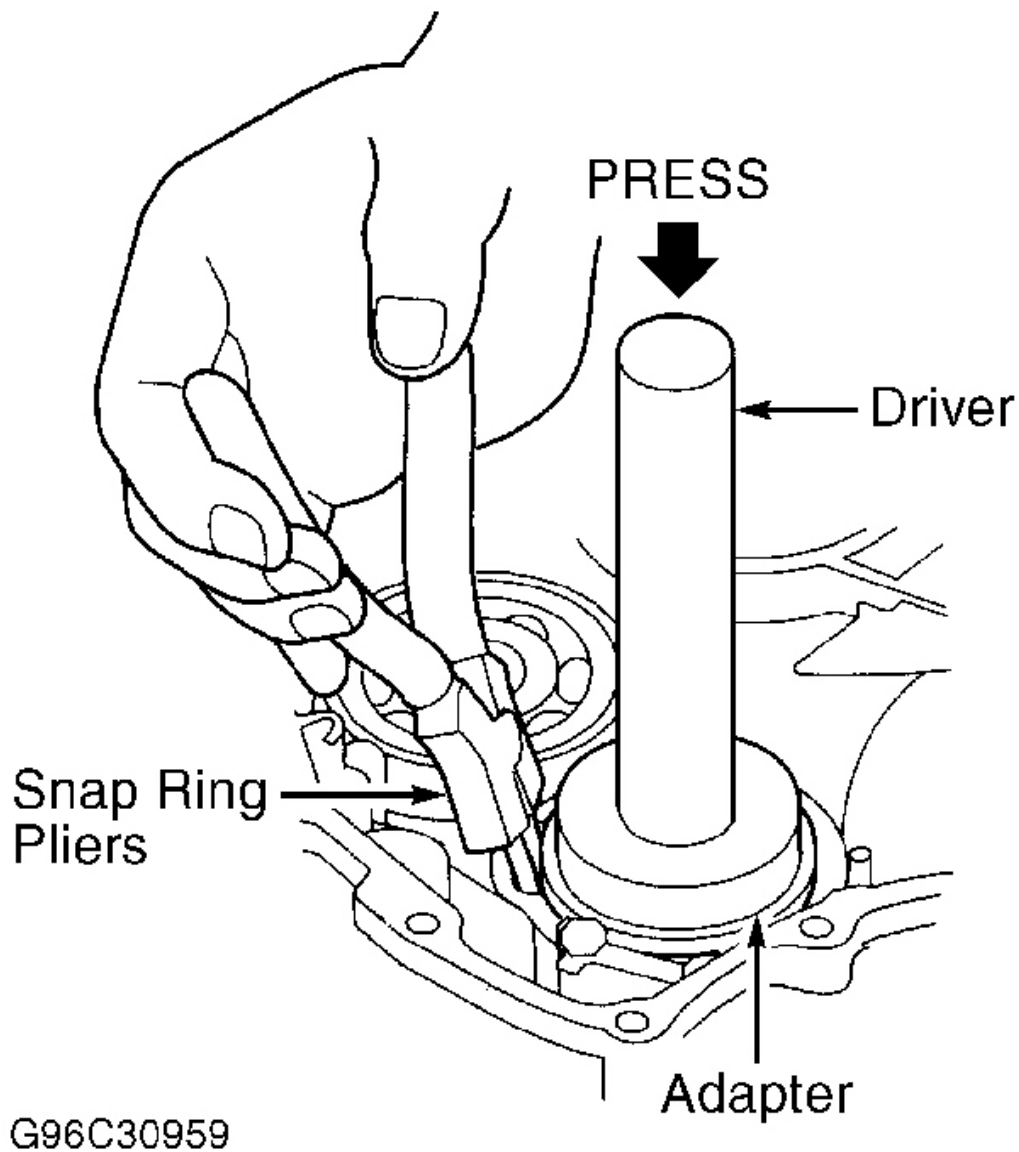

Fig. 25: Removing Driven Pulley Shaft Bearing
1. Expand snap ring with snap ring pliers, then push bearing out using driver, adapter and press. See **Fig. 25** . DO NOT remove snap ring unless it is necessary to clean groove in housing. Lubricate parts with ATF. Expand snap ring with pliers. Insert NEW bearing part way into housing using driver and adapter. Install bearing with groove facing outside housing.